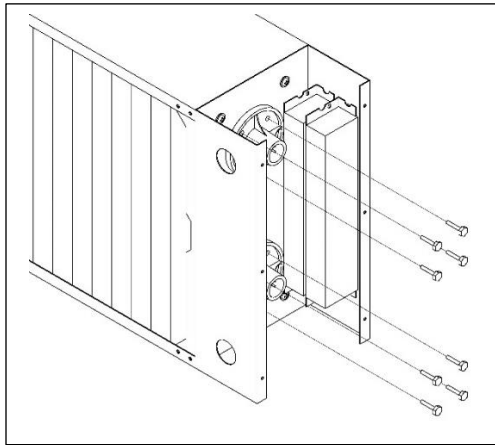

Figure 10
7.) Lamps are attached to catalyst panel with (4) 10-16 Self-Drilling screws per lamp. Remove the screws using a 5/16" socket wrench. See Figure 10.
11.) Reinsert (4) screws per lamp using a 5/16" socket wrench. See Figure 10.